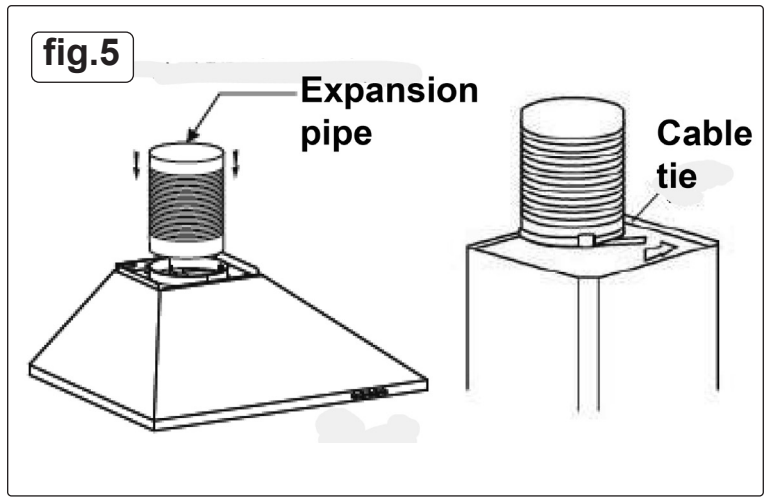

fig.5
- Install the expansion pipe to the outlet and fixed by cable tie. See fig.5.